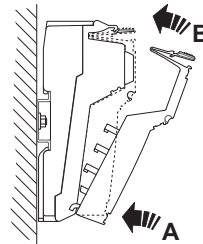

Figure 10-18 Snapping on a connector
- Plug the connectors into the base (Figure 10-18). First, insert the front connector shaft latching (A). Then press the top of the connector towards the base until it snaps into place (B).